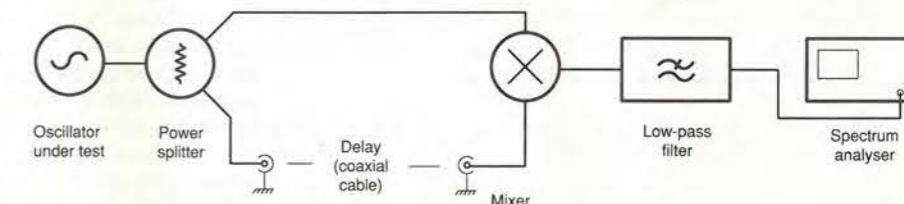
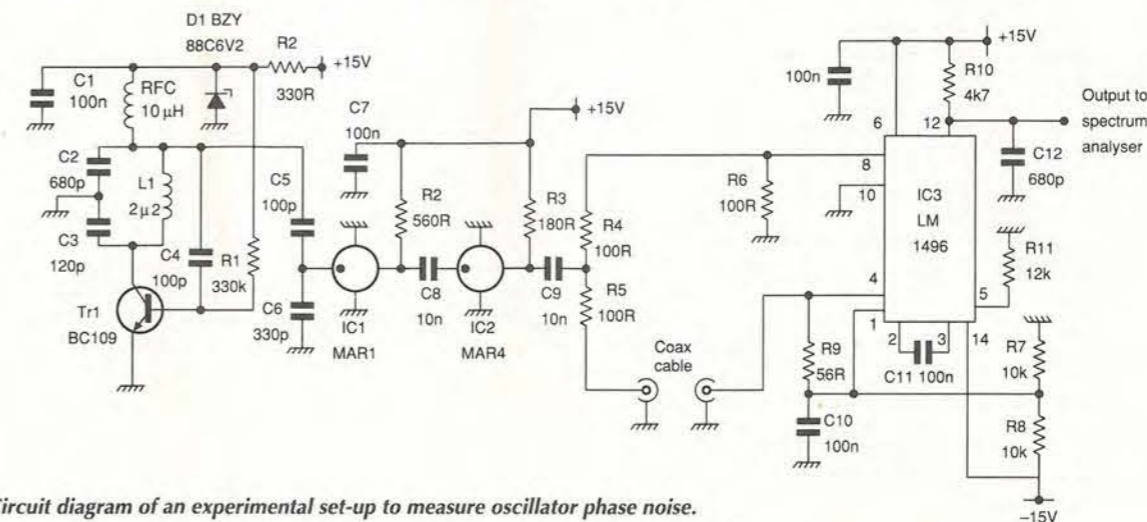

Fig. 1. Block diagram of a set-up to investigate oscillator phase noise.
Fig. 2. Circuit diagram of an experimental set-up to measure oscillator phase noise.
Clearly, even given a degree of phase-noise clean-up by the loop, one is better off starting out with a low phase-noise oscillator in the first place. A facility for measuring the phase noise of an oscillator is therefore an important item in any rf development laboratory, and can involve some very expensive equipment. For this reason, I was interested in an article which described such a measurement system using only standard laboratory instruments plus some inexpensive rf instrumentation¹. The basic arrangement is shown in Fig. 1.
In the lower trace of Fig. 5b), the measured level of sideband noise at 2.5kHz offset from carrier, with the circuit of Fig. 2, is –108dBV in a 30Hz measurement bandwidth. To work out $\mathcal{L}(f_m)$, the value in a 1Hz bandwidth is needed.
So if the modulating frequency f_m were a 2.5kHz sinewave rather than narrow band noise, the first order sidebands would each be $(3.3\cdot 10^{-5})/2$ in amplitude relative to the carrier, since for small angles, $\arctan\theta=\tan\theta=\sin\theta=\theta$, with negligible error. So the sinewave single sideband amplitude would be simply $20\log(1.65\cdot 10^{-5})$ relative to the carrier, or –96dBc. This may be taken as a first order approximation to the value of $\mathcal{L}(f_m)$ at 2.5kHz offset, for the circuit of Fig. 2.
I built an LC oscillator, operating at around 10MHz. Relative to vhf, this frequency is easier to measure. This, together with the other items needed for the Fig. 1 type set-up, is shown in detail in Fig. 2.
In Fig. 2, the signal is applied to the signal input port via R_5 and a length of coaxial cable. The latter provides a fixed time delay, independent of frequency. Therefore if the oscillator frequency is varied, the electrical length of the cable varies, and so the phase of the signal applied to pin 4 of IC_3 will vary. So although IC_3 is a phase sensitive detector, in
c) Showing the response of the Fig. 1 frequency discriminator, as implemented in Fig. 2. The black dot shows the measured centre frequency response, crosses show other measured points.